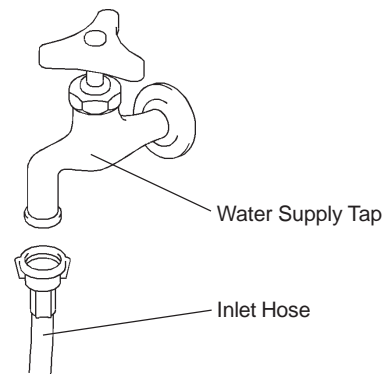

Fig. 8
- 3) Attach the other end of inlet hose to the water tap (Fig. 8), noting washer is correctly positioned before hand tightening as above.